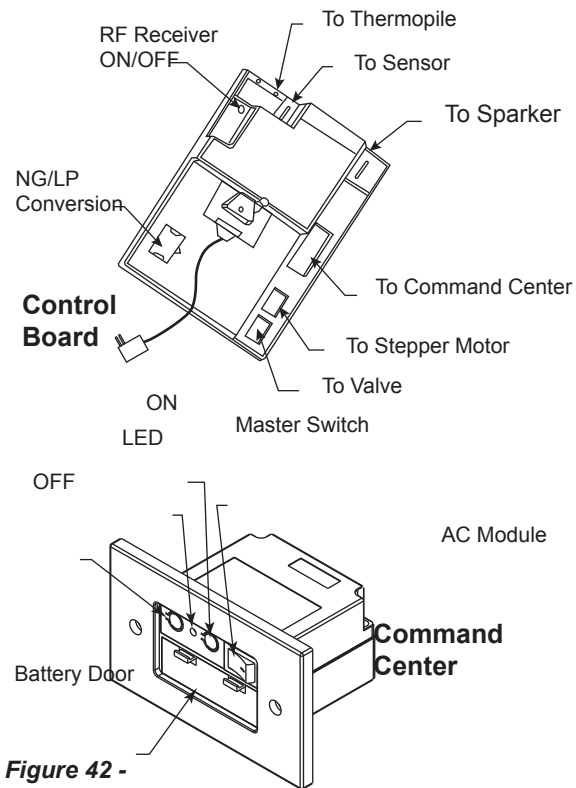

Figure 42 - Signature Command System Components
1. The RF receiver button located on the Control Board must be in the on position before the learn function can begin. Use paper clip to depress button. One beep for RF receiver ON or two beeps for RF receiver OFF will be given as confirmation. Refer to *Figure 42* for location.